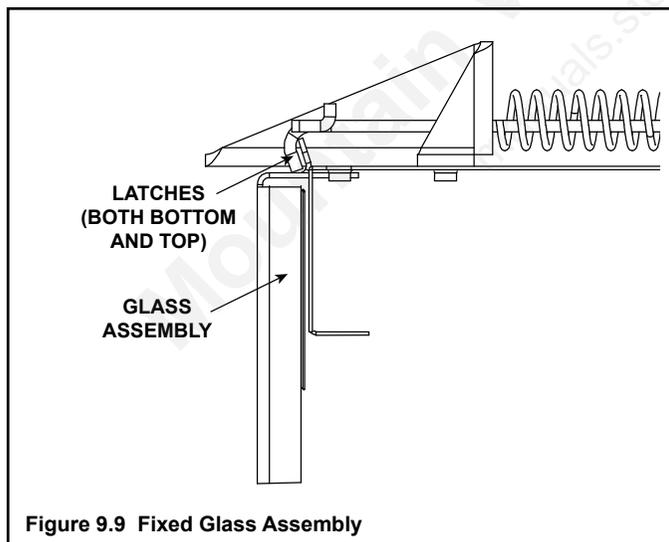

Figure 9.9 Fixed Glass Assembly
- Noting carefully how the brackets fit on the glass, release the two spring latches at the top and two at the bottom of the glass door. Carefully lift the glass up and out away from the appliance. See Figure 9.9.
- Pull the four glass assembly latches out of the groove on the glass frame. Remove glass door from the appliance (see Figure 9.9).